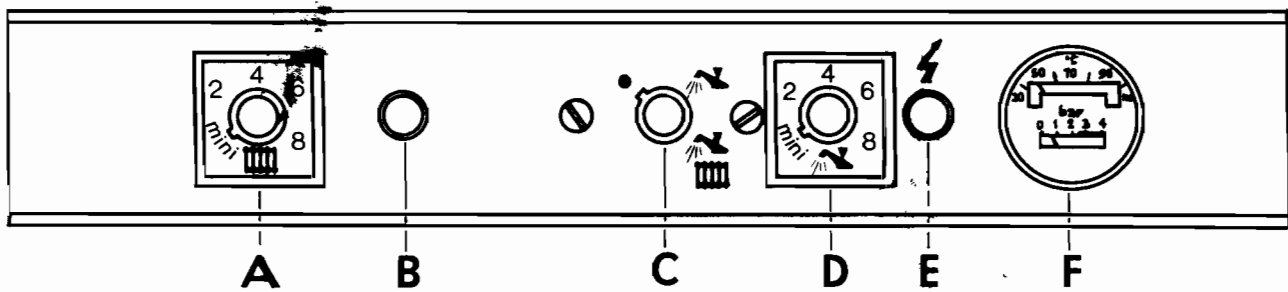

Fig. 16
5. Set control knob 'C' (Fig. 16) to the 'Off' position.
- a. Push in button 'B' (Fig. 16) and hold.
- b. After sufficient time to purge any air from the pilot, push in and release the igniter button 'E' (Fig. 16). A click will be heard.
1. Set the temperature control knob 'D' (Fig. 16) to No. 8 maximum.
2. Set the selection knob 'C' (Fig. 16) to the hot water position (tap).
5. Check the low rate operation of the burner. (Note : This setting is fixed and cannot be adjusted). Set knob 'D' (Fig. 16) to No. 4 and partially turn off the hot water tap. Allow a few minutes and the burner should now modulate to its low rate. The pump should not be operating.
2. Turn on the central heating by setting control knob 'A' (Fig. 16) to maximum No. 8 and knob 'C' (Fig. 16) to the central heating symbol (tap and radiator). Check that the room-stat and time switch (if fitted) are calling for heat and the burner should now light at maximum rate with the pump running.